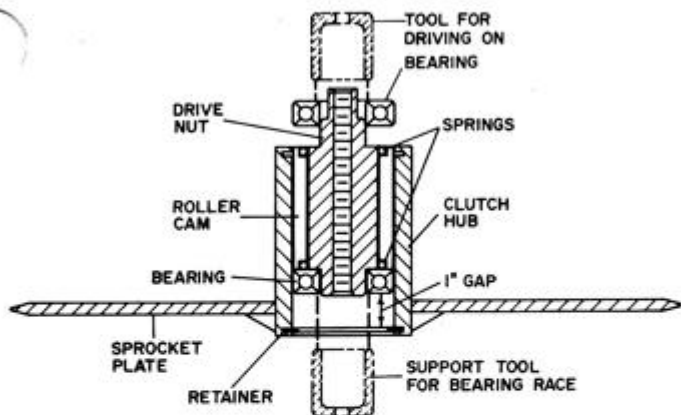

Fig. 39
stops at the engine side bearing retainer. fig. 39.
26. Push the operators side bearing on the drive nut. Support the engine side of the drive nut (not the sprocket hub) so as not to move the drive nut in the hub when putting the bearing on. When the bearing is going on the drive nut, be sure that the spring is still seated in the notches of the roller cams, fig. 39.